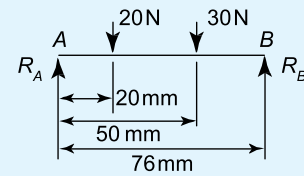

Figure 6.8
- Determine the values of the forces acting at A and B for the force system shown in Figure 6.8.